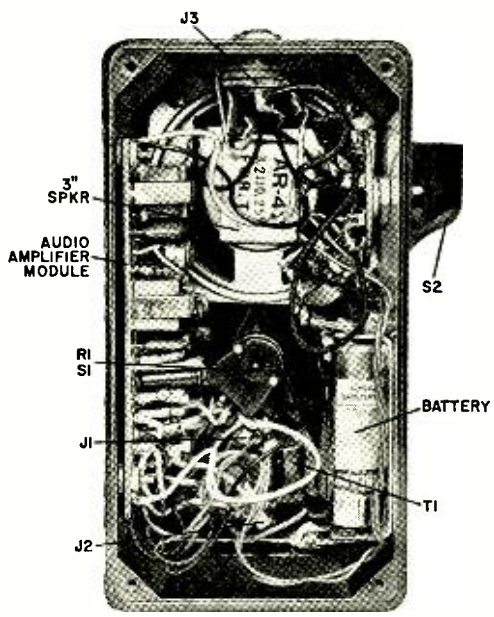

Fig. 2. A miniature 8-ohm speaker and a selector switch can be mounted on the case to provide a choice of either headphone or speaker output.
Fig. 2. Start construction by drilling holes in the aluminum box to accommodate the tuning dial shaft and regeneration control. Then drill mounting holes for the circuit board and coil form as shown here.
**Construction.** Either a plastic or a metal case measuring about 5" x 3" x 2" can be used to house the battery and amplifier module. Transformer *T1* can be mounted by soldering one of its mounting tabs to the outer conductor lug of *J2* as shown in Fig. 2. Use ½"-long